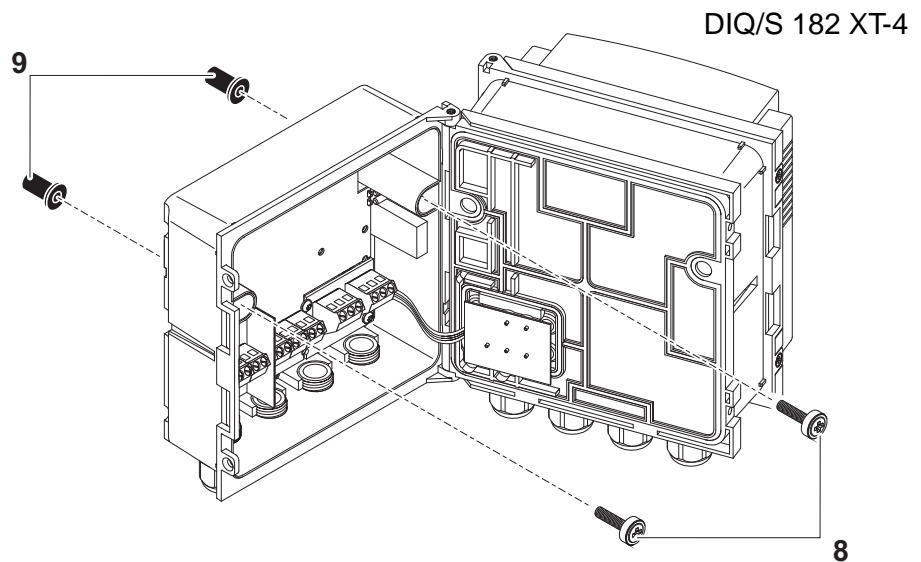

Fig. 3-4 Premounting the ISO blind nuts (variant 1)
| 6 | Insert the cheese-head screws (pos. 8 in Fig. 3-4) with the plastic washers in the drilled mounting holes in the enclosure and loosely screw in the ISO blind nuts (pos. 9). |
| 7 | Attach the prepared DIQ/S 182-XT-4 to the cover of the MIQ module. At the same time, ensure that the two clips on the DIQ/S 182-XT-4 click into place in the lid of the MIQ module. Subsequently, tighten the two screws (pos. 8 in Fig. 3-4). |